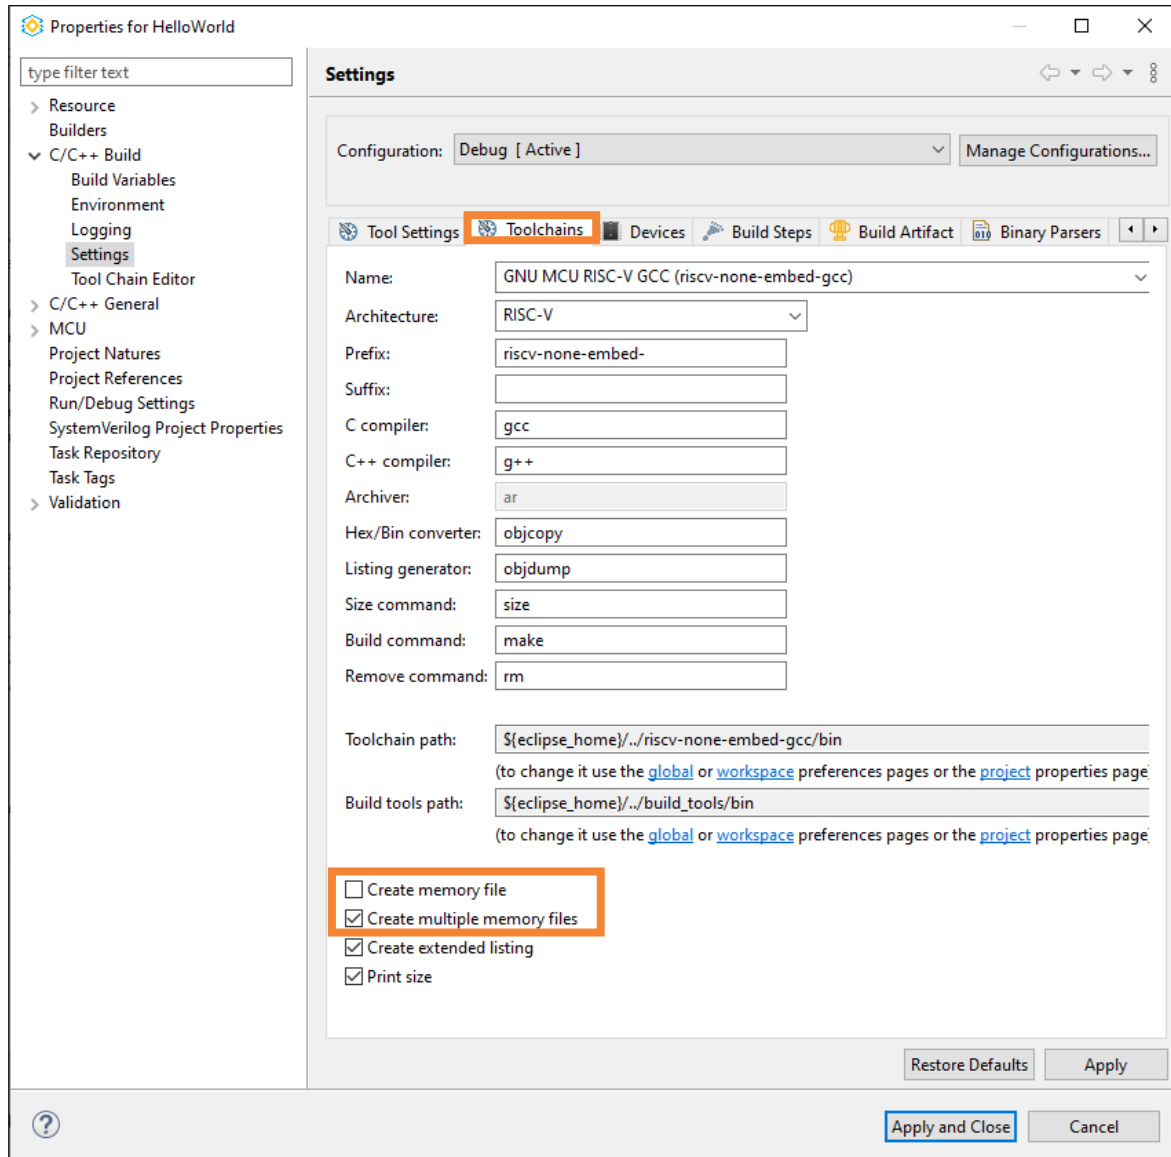

Figure A.4. Toolchains Tab of C/C++ Build Settings
3. Select **Settings of C/C++ Build** category from the left pane. Select the **Toolchains** tab (Figure A.4).